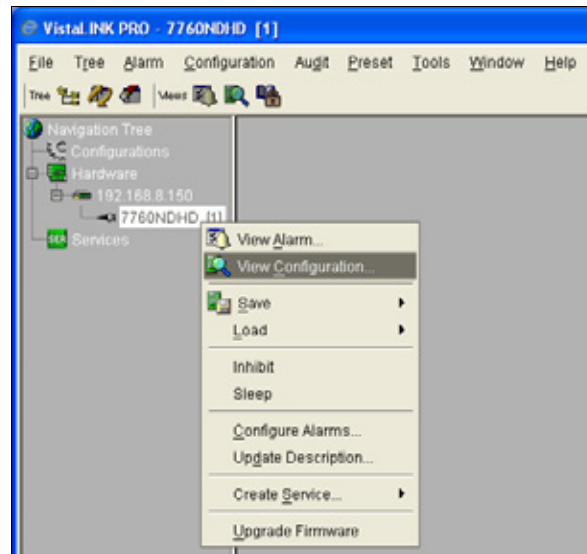

Figure 7-1: Select View Configuration
4. Click on the plus sign to expand the IP address and then right click on the 7760ND-HD hardware item. Select *View Configuration...* from the pop up menu that appears, as shown in Figure 7-1.